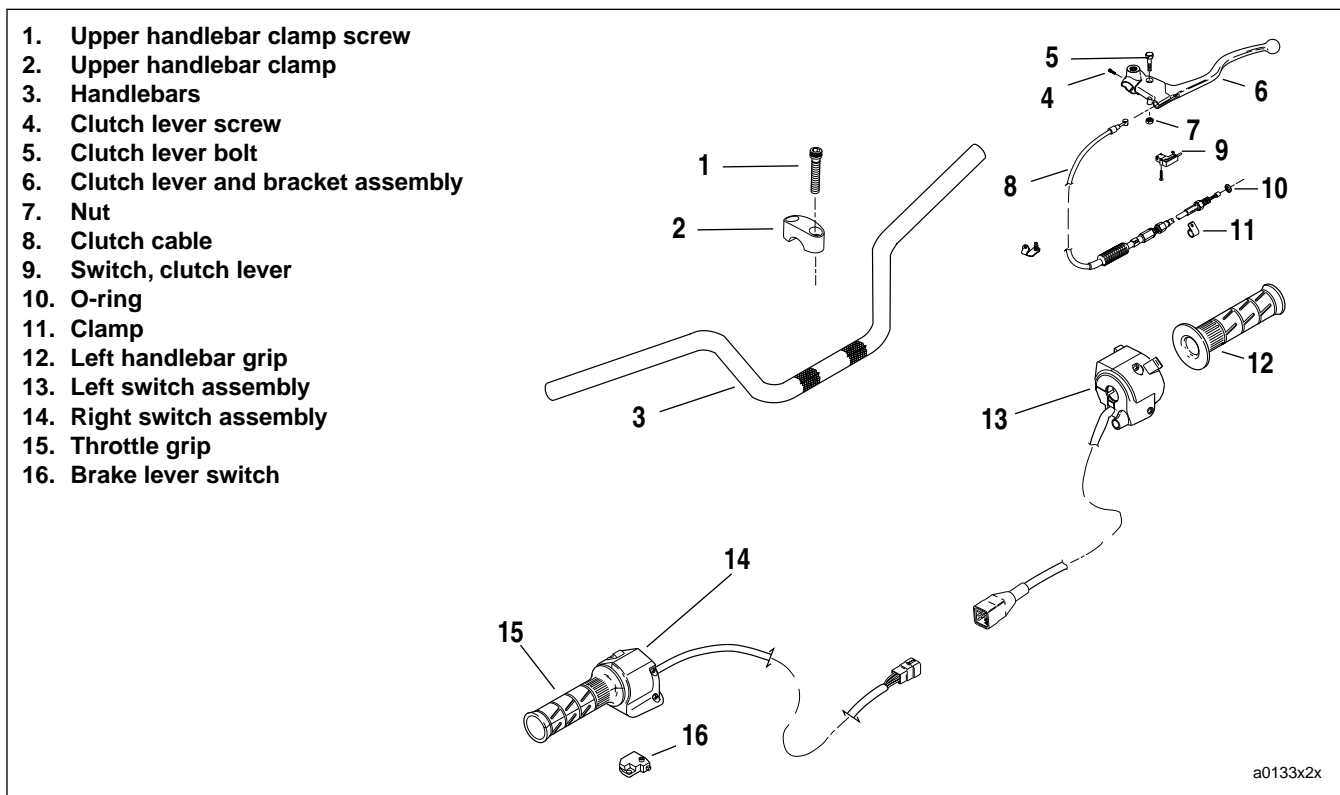

Figure 2-119. Handlebar Assembly
1. See Figure 2-119. Remove left side switch housing (13).
2. Loosen clutch adjuster and remove clutch cable (8).
3. Unplug clutch lever switch (9).
4. Remove left handlebar grip (12).
5. Loosen clutch lever screw (4) and slide clutch lever and bracket assembly off of handlebar (3).
6. Disconnect front brake lever switch (16).
9. Remove two screws on right switch assembly. Separate housings (14) from handlebar.